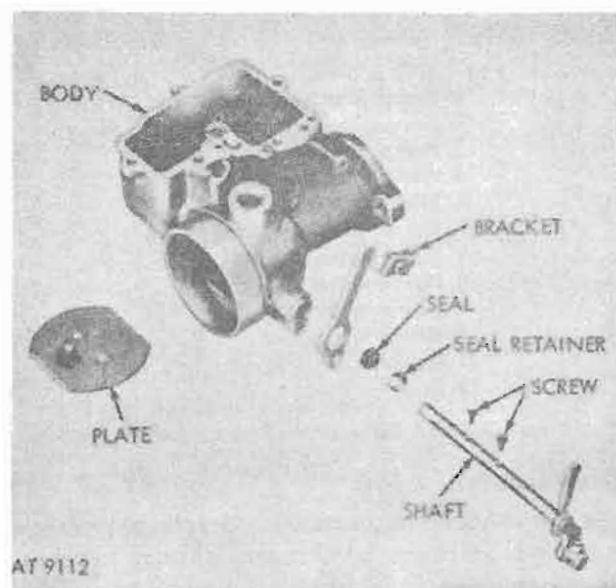

Figure 5-23. Choke shaft and related parts.
(3) File choke plate screws to remove staking and remove screws from choke plate. Remove the choke plate and pull out shaft. Remove seal, seal retainer, and choke control bracket (fig. 5-23).
b. *Choke Plate.* Slip choke plate on shaft and lever, taking care to position plate in alignment with scribe mark made during disassembly (fig. 5-23). Install screws but do not tighten. Hold choke in fully closed position to note amount of light clearance around circumference of plate. Adjust